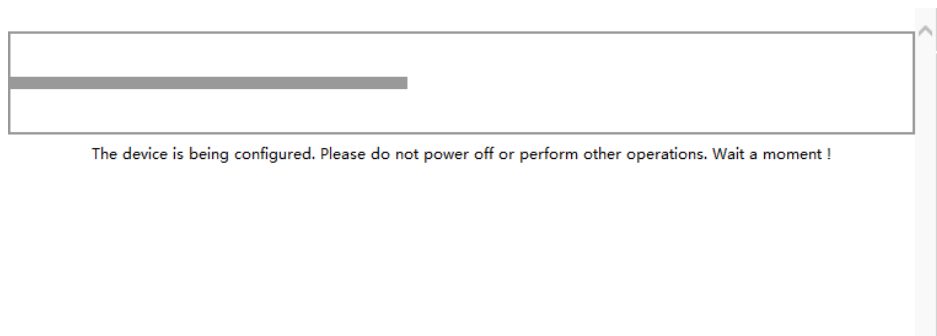

Figure 29 The waiting interface diagram after the user modifies the address
■ DNS: The IP address of the DNS server. When the device uses a static IP address, the user is required to fill in this item. If a specific DNS server is not used, the default gateway IP address is generally sufficient. Whenever users modify the address settings, they need to click the button to submit to the Mport series serial server and switch to a waiting page as shown in Figure 29.